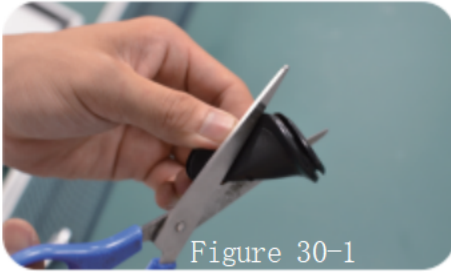

Figure 30-1
30. Install enclosure rubber grommet and route lightning arrester grounding wire As shown in Figure 30-1, cut the rubber grommet; route the lightning arrester grounding wire through the grommet into the enclosure as shown in Figure 30-2; place wire into corrugated conduit and insert conduit into grommet as shown in Figure 30-3.